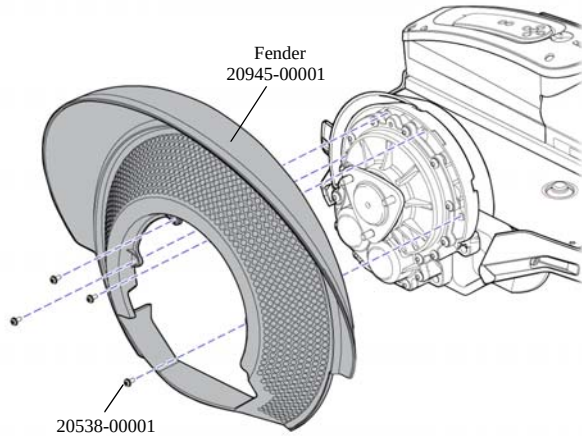

Figure 5-1: Remove or Install Fender, i2
3. Using a T-20 6-lobe , remove (4) button-head fasteners. See Figure 5-1.
2. Orient and place fender on gearbox. Use T-20 6-lobe wrench to drive (4) button-head fasteners (20538-00001) and torque to 1.5 N-m. See Figure 5-1.